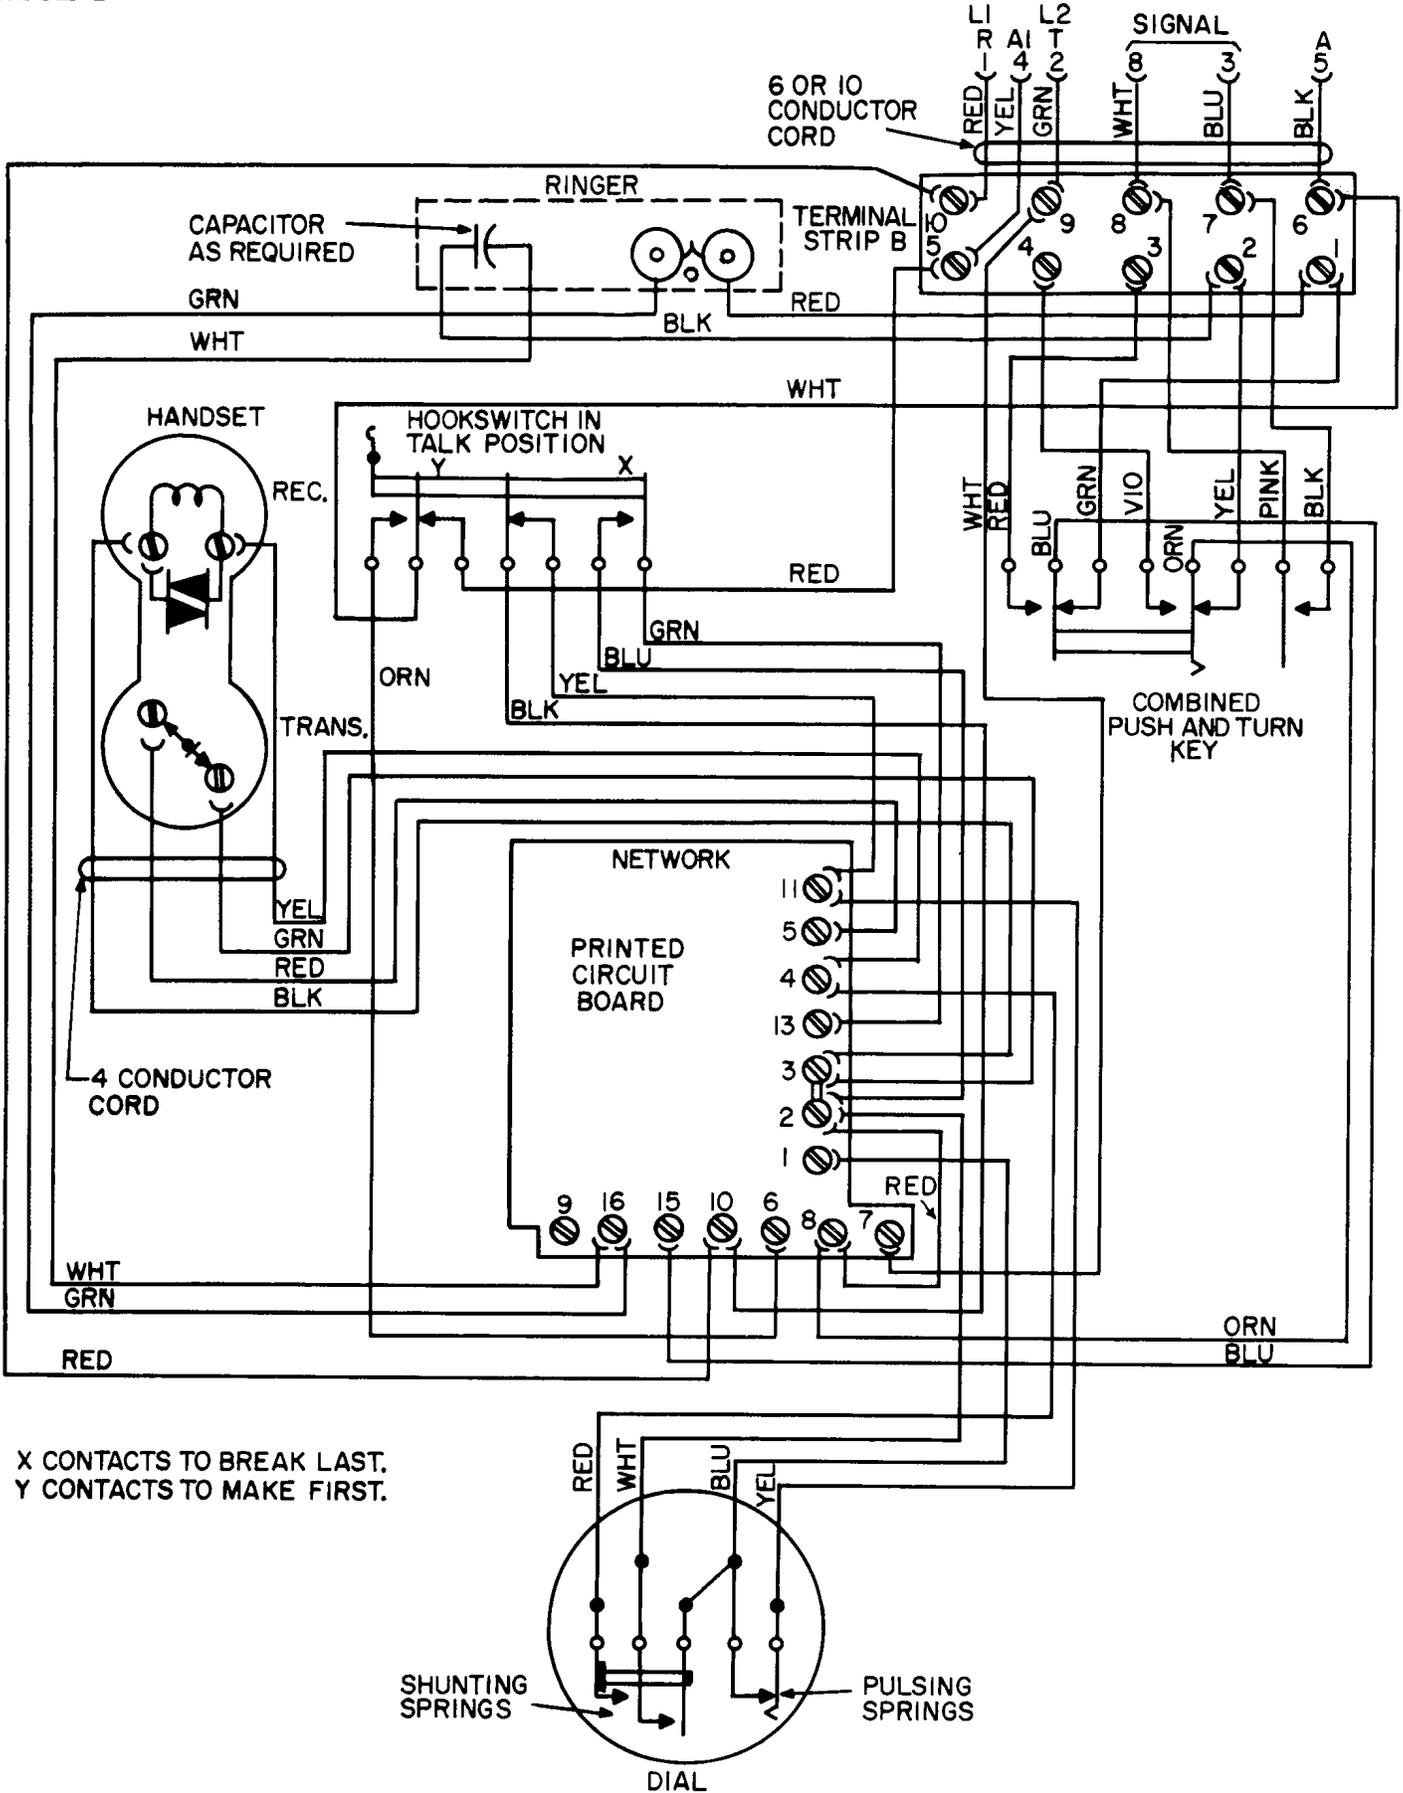

Figure 1. Wiring Diagram of Modified Type 85A Telephone Set With Printed-Circuit Board Network.
2.01 The wiring diagram of a Type 85A telephone set with self-compensating network components mounted on a printed-circuit board is shown in Figure 1 as modified for key system operation. The modification procedure is set forth in steps (1) through (7) below.